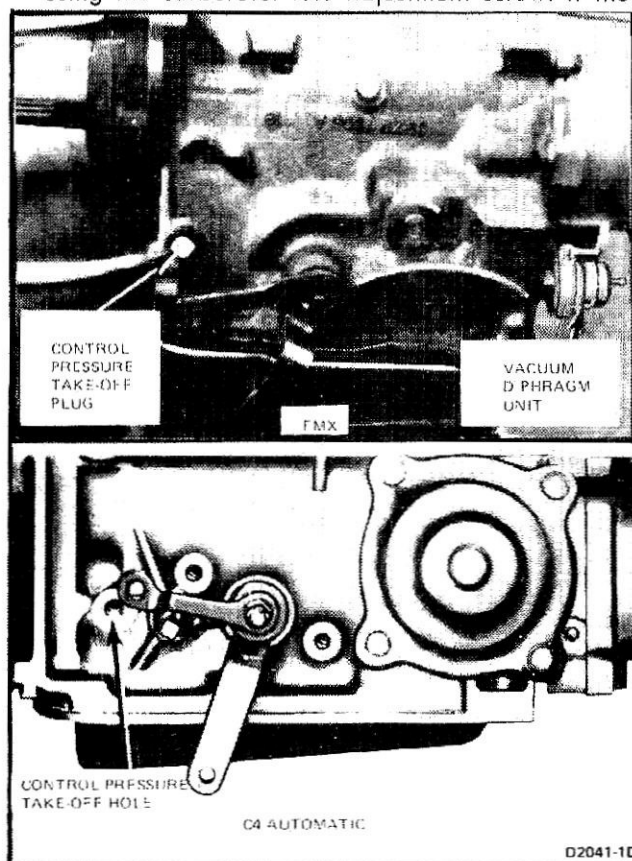

FIG. 7 Typical Vacuum Diaphragm and Control Pressure Connecting Point—C4 and FMX Transmissions
2. Attach the pressure gauge to the control pressure outlet at the transmission (Figs. 7 and 8).